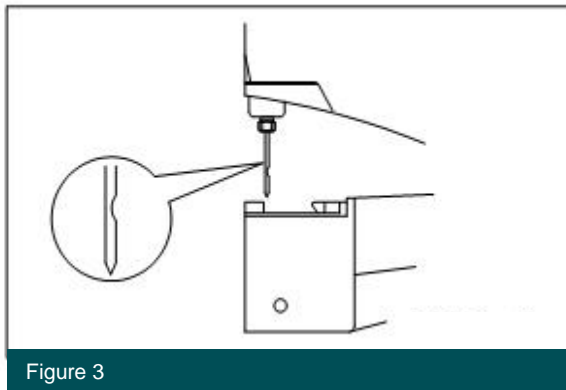

Figure 3
- During the needle changing process remember to keep the needle's long groove facing the left side of the machine. See **Fig 3 & 4**.